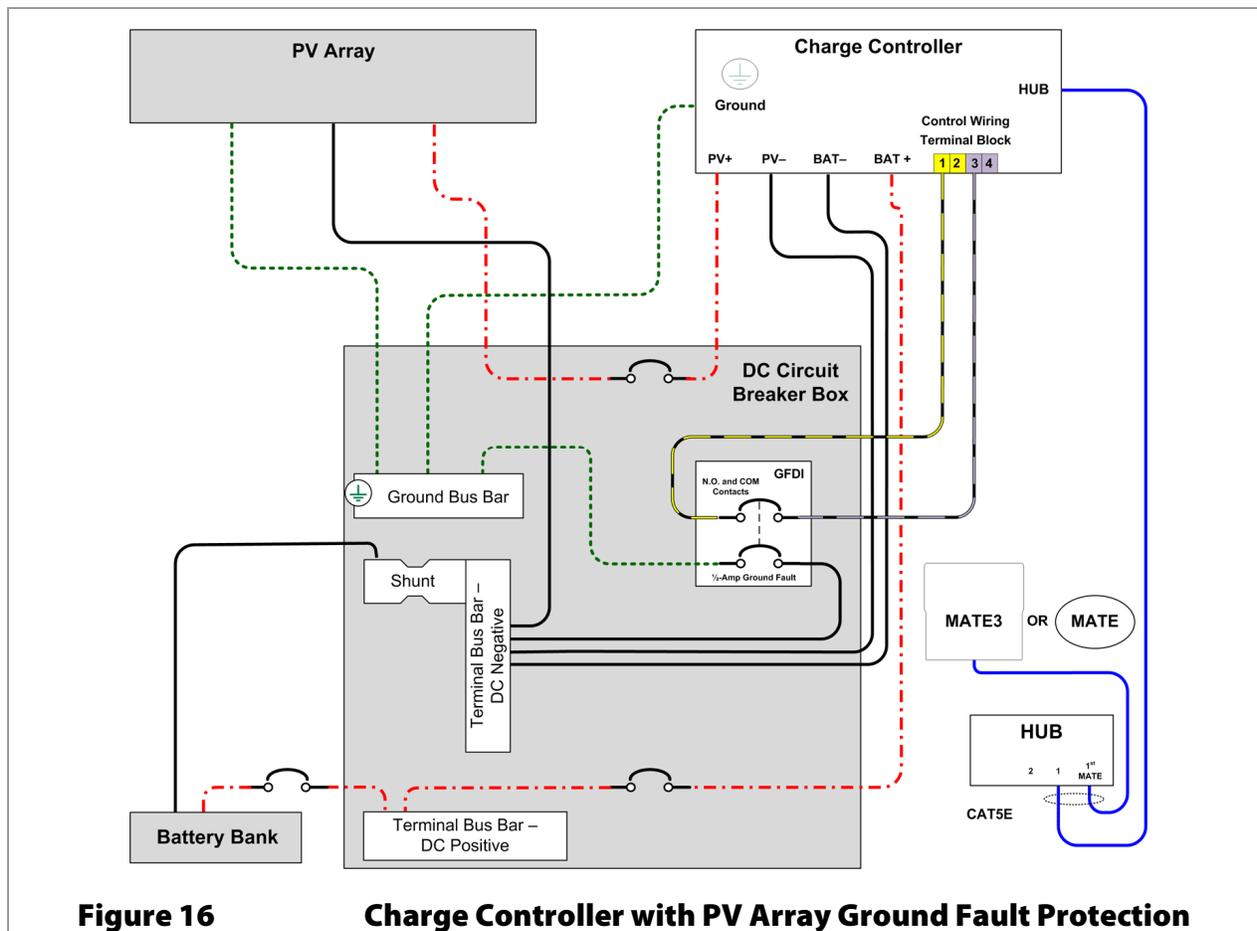
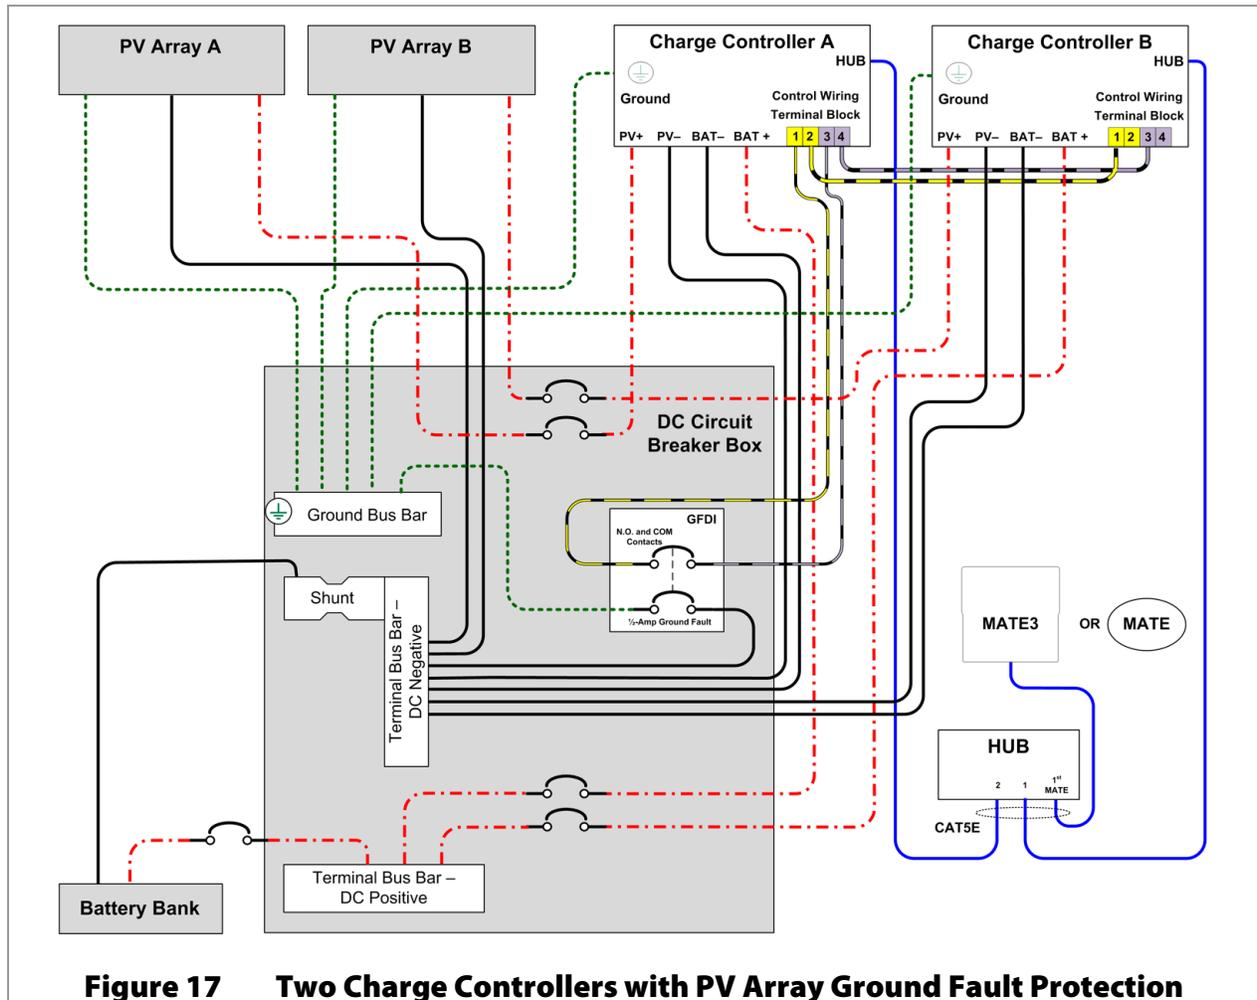

Figure 16 Charge Controller with PV Array Ground Fault Protection
Figure 17 Two Charge Controllers with PV Array Ground Fault Protection
See Figure 8, Figure 10, Figure 16, and Figure 17 for sample wiring diagrams.
The External Fault terminals are used to make connections to the OutBack Ground Fault Detector/Interruptor (GFDI) product. A single wire is run from one of the yellow terminals (① or ②). A second single wire is run from one of the purple terminals (③ or ④). Terminals ① and ③ are the most commonly used. These wires are connected to a normally-open set of contacts on the OutBack GFDI. Figure 16 and Figure 17 show terminals ① to ④ without the rest of the control terminal block.
In the first controller, terminals ② and ④ should have a parallel set of wires which connect to terminals ① and ③ on the second controller. This allows the second controller to sense the same conditions as the first so that it will react accordingly. If a third controller is present, its terminals ① and ③ should have wires connecting to terminals ② and ④ on the second controller, and so on. (See Figure 17.) Additional controllers can be added as needed.
In Figure 16, a wire has been run from terminal ① to one of the dedicated GFDI terminals. A wire has also been run from terminal ③ to the other side of the GFDI. As long as the GFDI remains closed, that pole of the GFDI will read as electrically continuous to the External Fault circuit.
In Figure 17, a wire has been run from terminal ① on Charge Controller A to one of the dedicated GFDI terminals. A wire has also been run from terminal ③ to the other side of the GFDI.